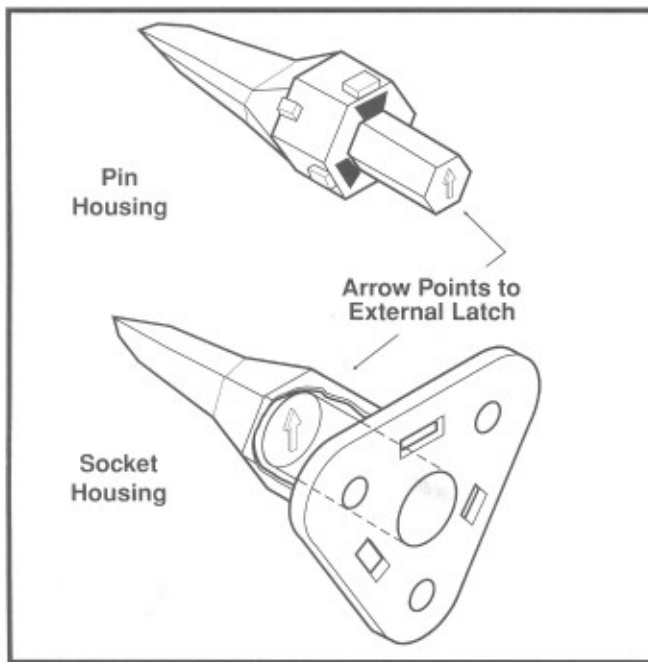

Figure 7-99. 3-pin Locking Wedge Orientation
1. See Figure 7-99. Remove the secondary locking wedge. Insert the blade of a small screwdriver between the socket housing and locking wedge inline with the groove (inline with the pin holes if the groove is absent). Turn the screwdriver 90 degrees to pop the wedge up.
While rectangular wedges do not require a special orientation, the conical secondary locking wedge of the 3-pin connector must be installed with the arrow pointing toward the external latch. See Figure 7-99.